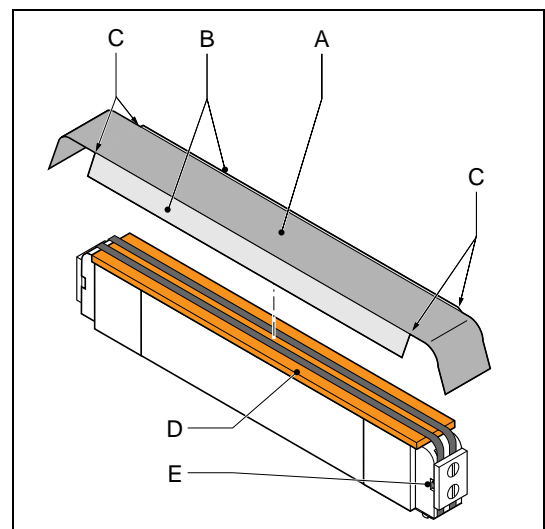

Fig. 8-10: Fitting a new teflon lining
2. Remove the teflon lining that is stuck to the beam (Fig. 8-10).
3. Remove the mounting plates (C) at both the ends of the seal beam by unscrewing the screws. This loosens the sealing wires (B) and/or the sealing and the cutting wire.
1. Fit new hard glass fibre strips to the seal beam (Fig. 8-10) if necessary.
2. Position the new wires (B) behind one of the mounting plates (C) and ensure that the ends of the wires are level with the bottom side of the mounting plate. Now tighten the screws (D).
5. Tighten the wires as tightly as possible with a pair of pliers (A) and secure the mounting plate by tightening the screws (D).
3. Unscrew the screws (D) at both ends of the seal beam.
5. Fit new glass fibre strips (A) to the seal beam (Fig. 8-10) if necessary.
6. Position the new wires (B) at one end of the seal beam, place plates (C) and tighten the screws (D).
9. Tighten the wires as tightly as possible with the "Wire Tension Tool" (E) and secure the mounting plate (C) by tightening the screws (D)
Fitting a new teflon lining to the seal beam as follows (Fig. 8-10):